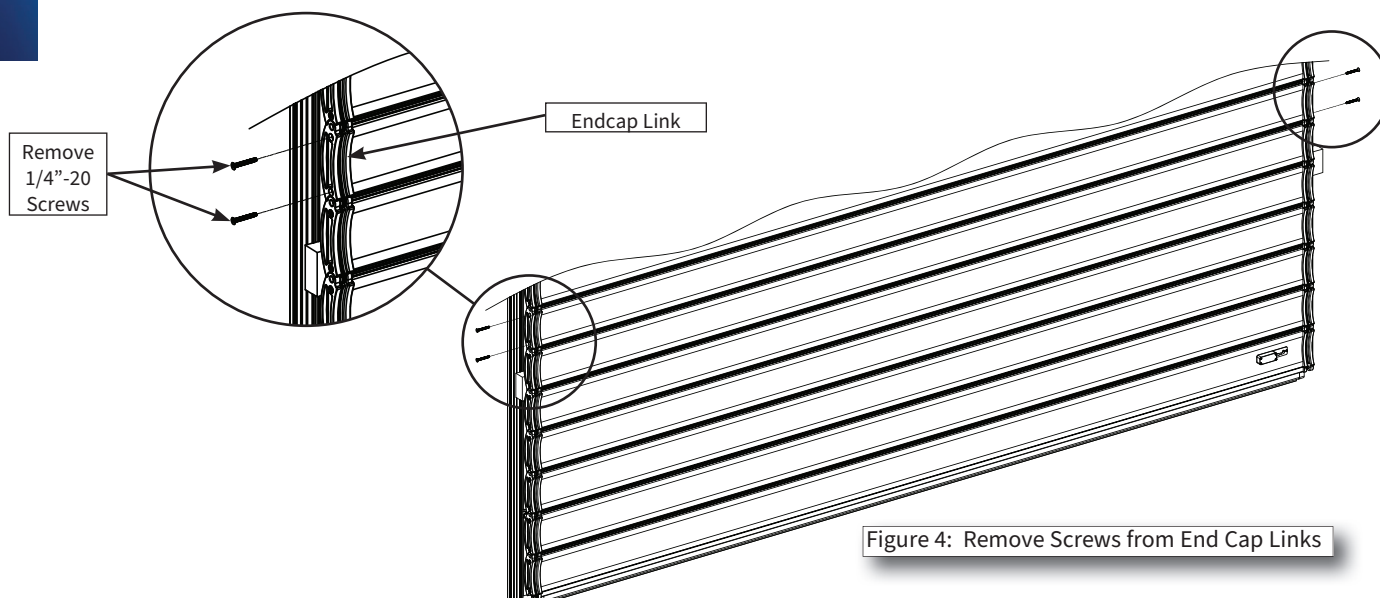

Figure 4: Remove Screws from End Cap Links
- 7 On slat(s) to be replaced, loosen and remove two 1/4"-20 screws in end cap links from both ends of slat(s) (Figure 4).